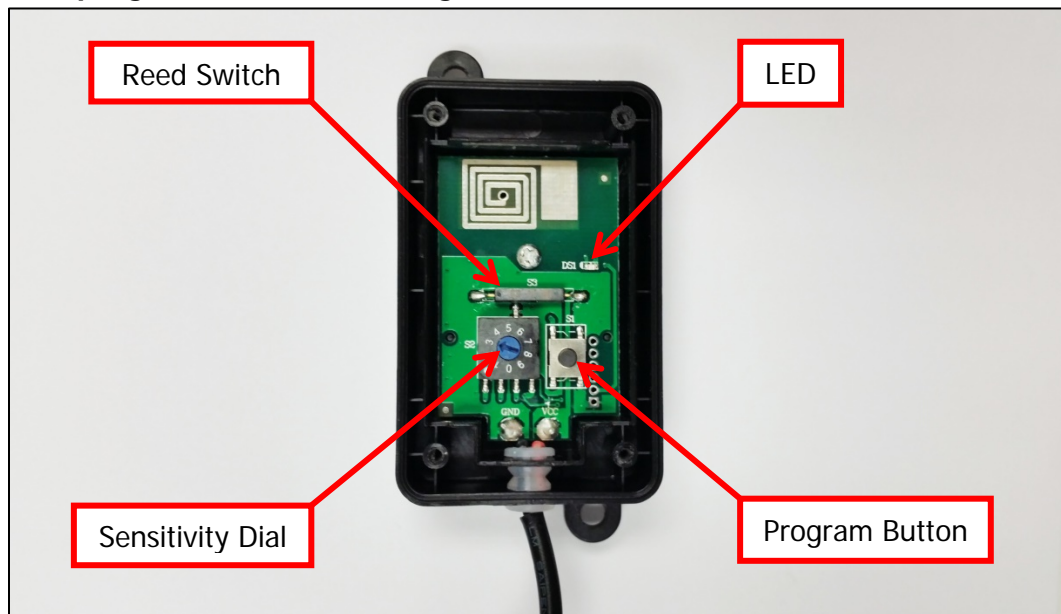

Fig.4
- d. Turn the base plate over (Magnet down). Then place the motion sensor on top of it so that the magnet is aligned with the reed switch. See fig.4. **If this is not done the default program cannot be changed.**
- a. Set the Motion sensor Adjustment Dial to level 5. (See Fig.4)
- e. Press the Stop button on the Motor controller (see fig.4). The green LED will illuminate continuously.
- f. Press the programming button on the GC779G Motion sensor (See Fig.4). Both the Purple LED on the Motion sensor and the green LED on the Motor controller will flash once and extinguish. This completes the programming sequence.